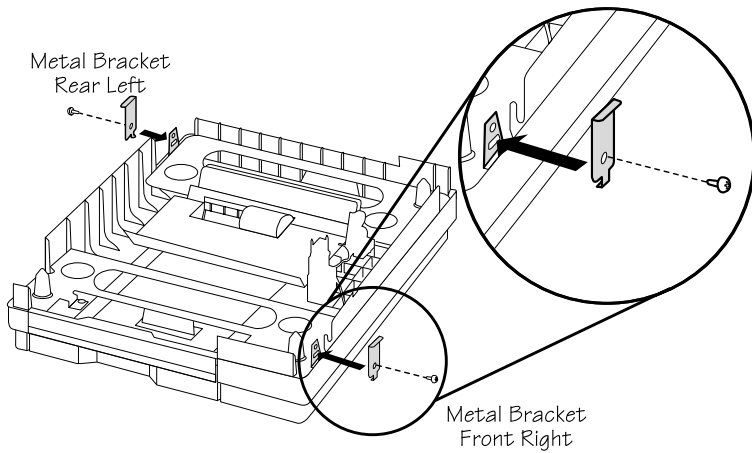

Fig. 8.2 *Install the Metal Brackets*
- a. Align one of the metal brackets with the outside of the metal post on the front right side of the sheet feeder (fig. 8.2). Make sure
- b. Attach the bracket to the post using one of the two small metal screws that came with the sheet feeder (fig. 8.2).
- c. Align and attach the second metal bracket to the rear left sheet feeder post in the same way as you did the first bracket (fig. 8.2).